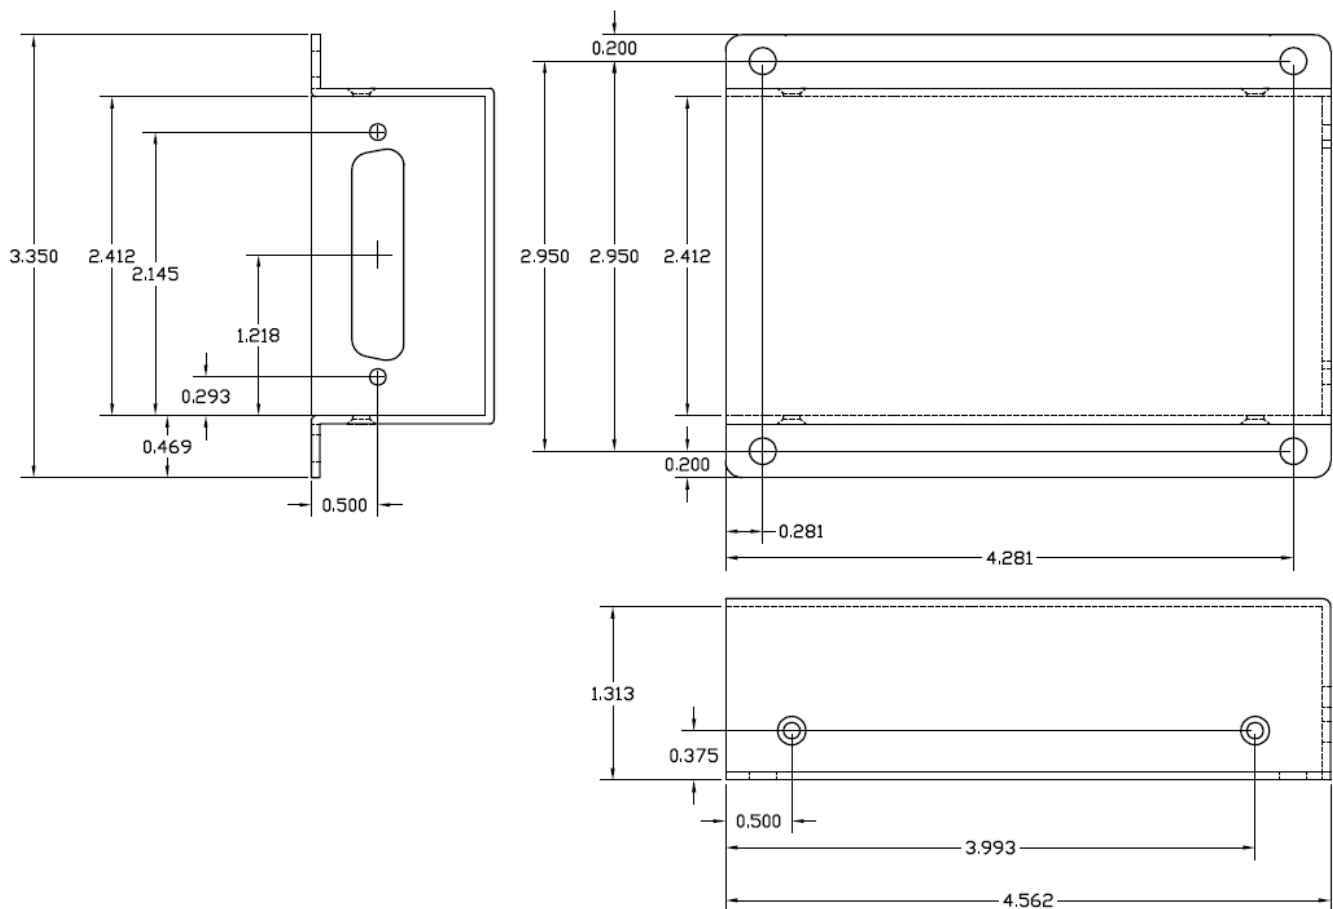

Figure 2 - PLF-900 Installation Footprint
1. The PLF-900 Power Line Filter must be installed on either the rotorcraft's secondary or tertiary structure, in a location as close as possible to the TDFM-9x00 series transceiver. If required, fabricate a mounting plate or bracket(s), to match the chosen installation location. The footprint of the PLF-900 is provided below in Figure 2 for reference.